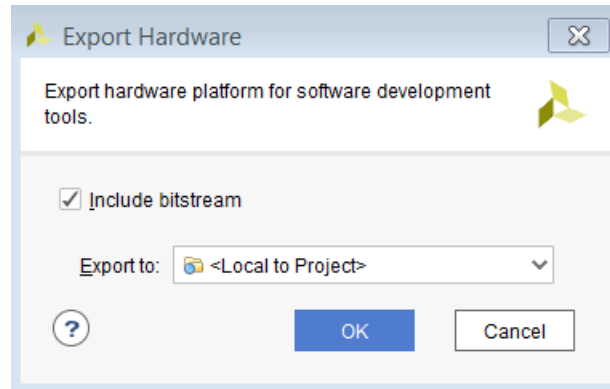

Figure 10-20: Export Hardware Dialog Box
2. In the Export Hardware dialog box (Figure 10-20), ensure that the **Include Bitstream** is enabled and click **OK**.